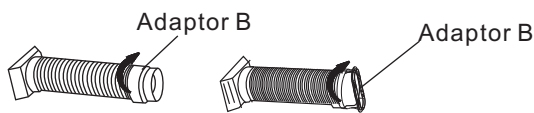

Fig.16
1. Install the window Exhaust adaptor B(flat mouth) onto the exhaust hose as shown in Fig.16. Refer to the previous pages for window kit installation.